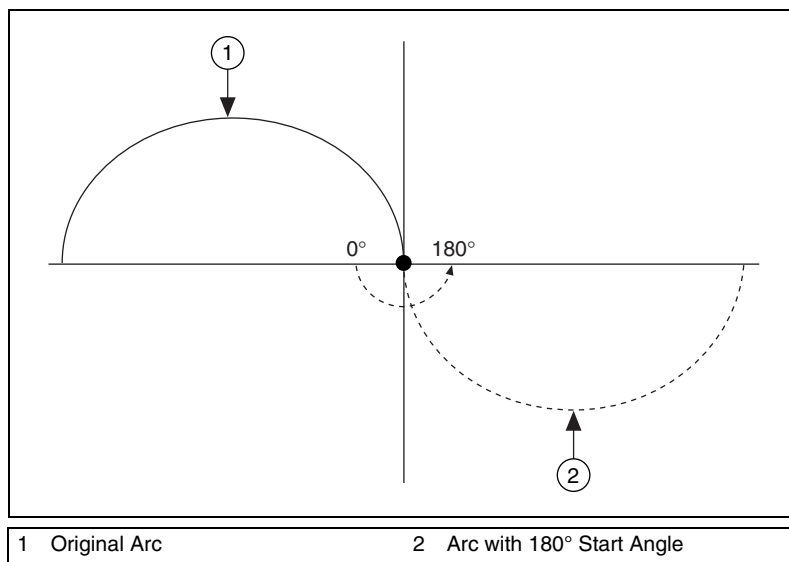

Figure 6-2. Rotating Start Angle
- **Start Angle**—Orients the arc on its plane using the starting point as an axis to spin around. Because the starting point for a new arc is fixed based on the current position, moving its center around the starting point alters the orientation of a new arc. For example, Figure 6-2 shows the effect of changing the start angle from 0° to 180° .